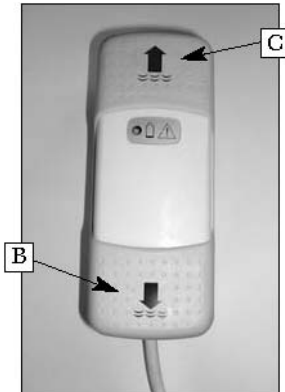

Fig.6
To operate the hand controller: Press pad (C) to raise the unit and (B) to lower. (See Fig.6) The control pads are textured, to assist the visually impaired, with bumps on the up pad (C) and dimples on the down pad (B). When either pad is pressed, the warning light will flash and the bleep will sound to signify operation.